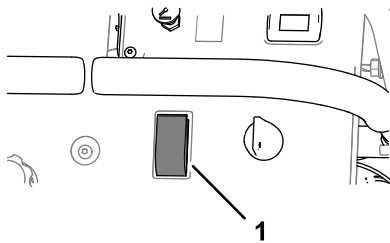

Figure 41
3. Press the sprayer-pump switch to the ON position (Figure 41).